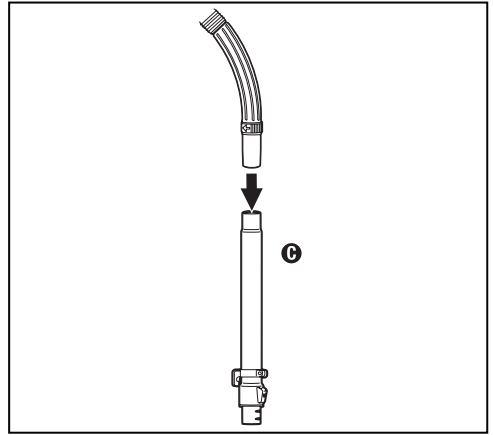

Fig.2
- Step 2:** Attach wands **C** or **D** to hose handle (Fig. 2).